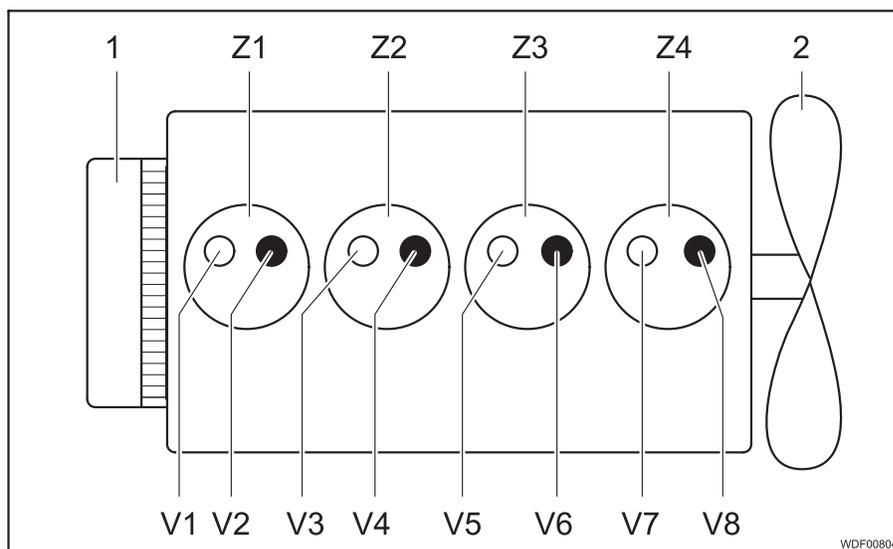

Fig. 1 Cylinder arrangement
- ▷ The adjustment sequence refers to the view of the engine from the flywheel side (see Fig. 1).